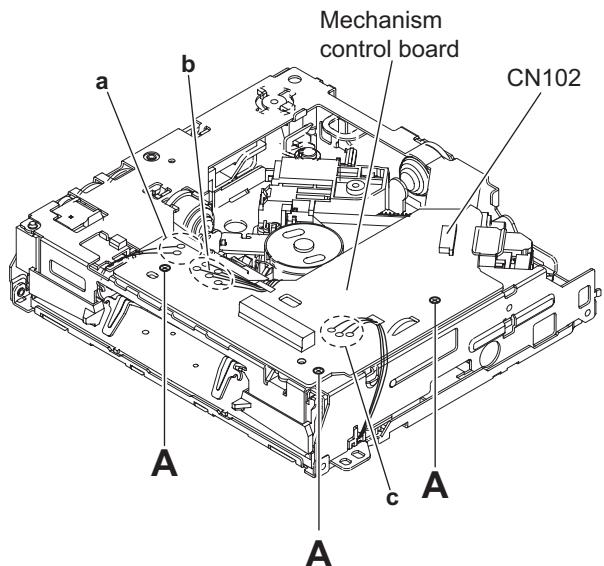

Fig.1
3.2.1 Removing the MECHANISM CONTROL BOARD assembly (See Fig.1 and 2)
- (1) From the bottom side of CD MECHANISM assembly, remove the solders from the soldered sections (**a**, **b** and **c**) on the MECHANISM CONTROL BOARD assembly. (See Fig.1.)
- (2) Remove the three screws **A** attaching the MECHANISM CONTROL BOARD assembly. (See Fig.1.)